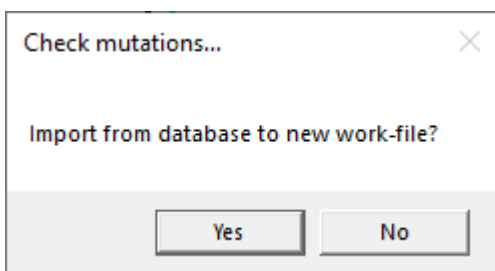

Figure 5.4.6
6. After storing the data to the database a dialog is shown, figure 5.4.6, asking if the work-file has to be updated with the database data.